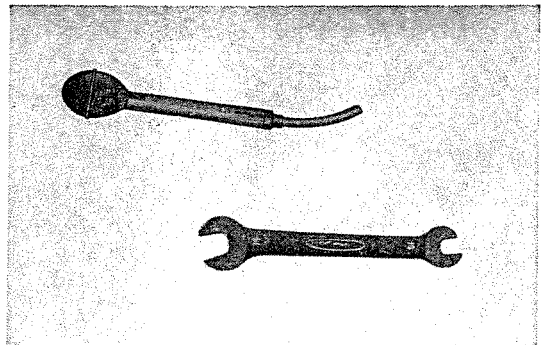

Fig. 6.38 Required tools
- a. Tools required. (Refer to Fig. 6.38)